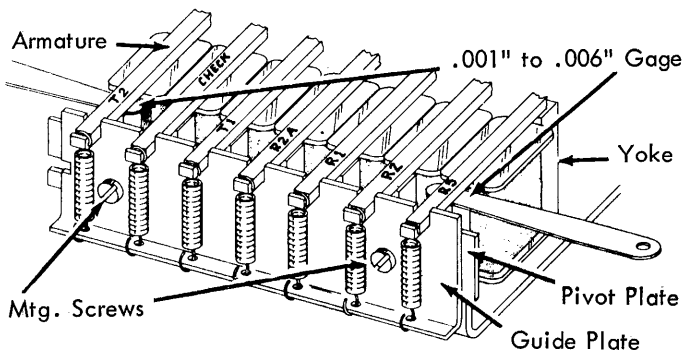

FIGURE 27. Pivot Plate
1. Pivot Plate (Fig. 27) - Adjust for a clearance of .001" to .006" between the yoke and armatures with the armatures manually attracted. Measure clearances at the outside armatures (T2 & R5).
2. Guide Plate (Fig. 27) - Position as follows:
- c. Apply slight pressure to the T2 and R5 armatures (Ref. Fig. 27). Both armatures should be touching the trip bail. If not, adjust the pivot eccentrics to satisfy this condition.